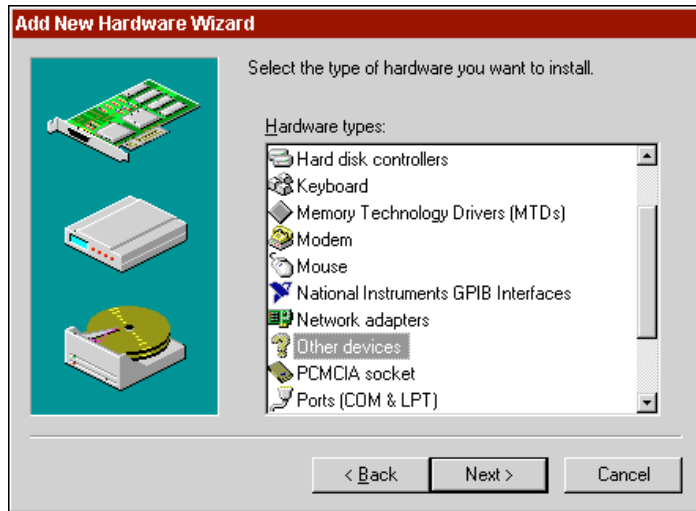

Figure 2-1. Add New Hardware Wizard Hardware Selection
5. The next **Add New Hardware Wizard** dialog box lets you select the type of hardware you want to install. Select the **Other Devices** item, as shown in Figure 2-1. You may select the **National Instruments GPIB Interfaces** item instead, if it appears in the dialog box. Click on the **Next** button to continue.